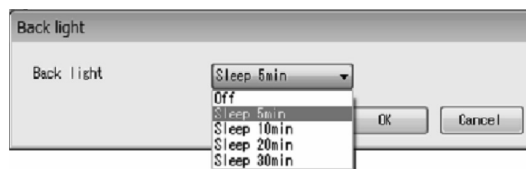

Fig.92
- ③ Click the triangle on the right side of "Back light" as shown in Fig. 92, and select the time to set from the drop-down list.